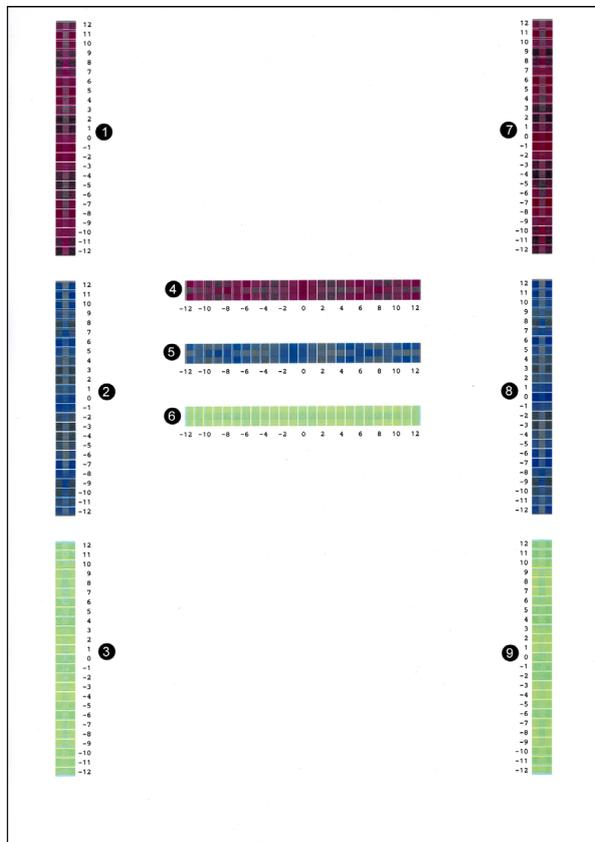

Fig. 5-6
- (1) Press the ▲ or ▼ button to display "MAINTENANCE 66" on the LCD in the initial state of the maintenance mode.
- (2) Press the **OK** button. "REGISTRATION" is displayed on the LCD.
- (3) Press the ▲ or ▼ button to display "PRINT CHART" on the LCD.
- (4) Press the **OK** button. "PRINTING" is displayed on the LCD, and printing of misregistration correction chart (refer to fig. 5-6 \(P5-21\)) is printed. When printing is finished, "PRINT CHART" is displayed on the LCD.
- (5) Press the **Cancel** button to return the machine to the initial state of the maintenance mode.
- (3) Press the ▲ or ▼ button to display "SET REGISTRATION" on the LCD.
- (4) Press the **OK** button. "1. MAGENTA=0" is displayed on the LCD.
Using the printed misregistration correction chart, identify the numeric value whose color is the darkest in the pattern of (1) (Magenta Left) shown in fig. 5-6 \(P5-21\).